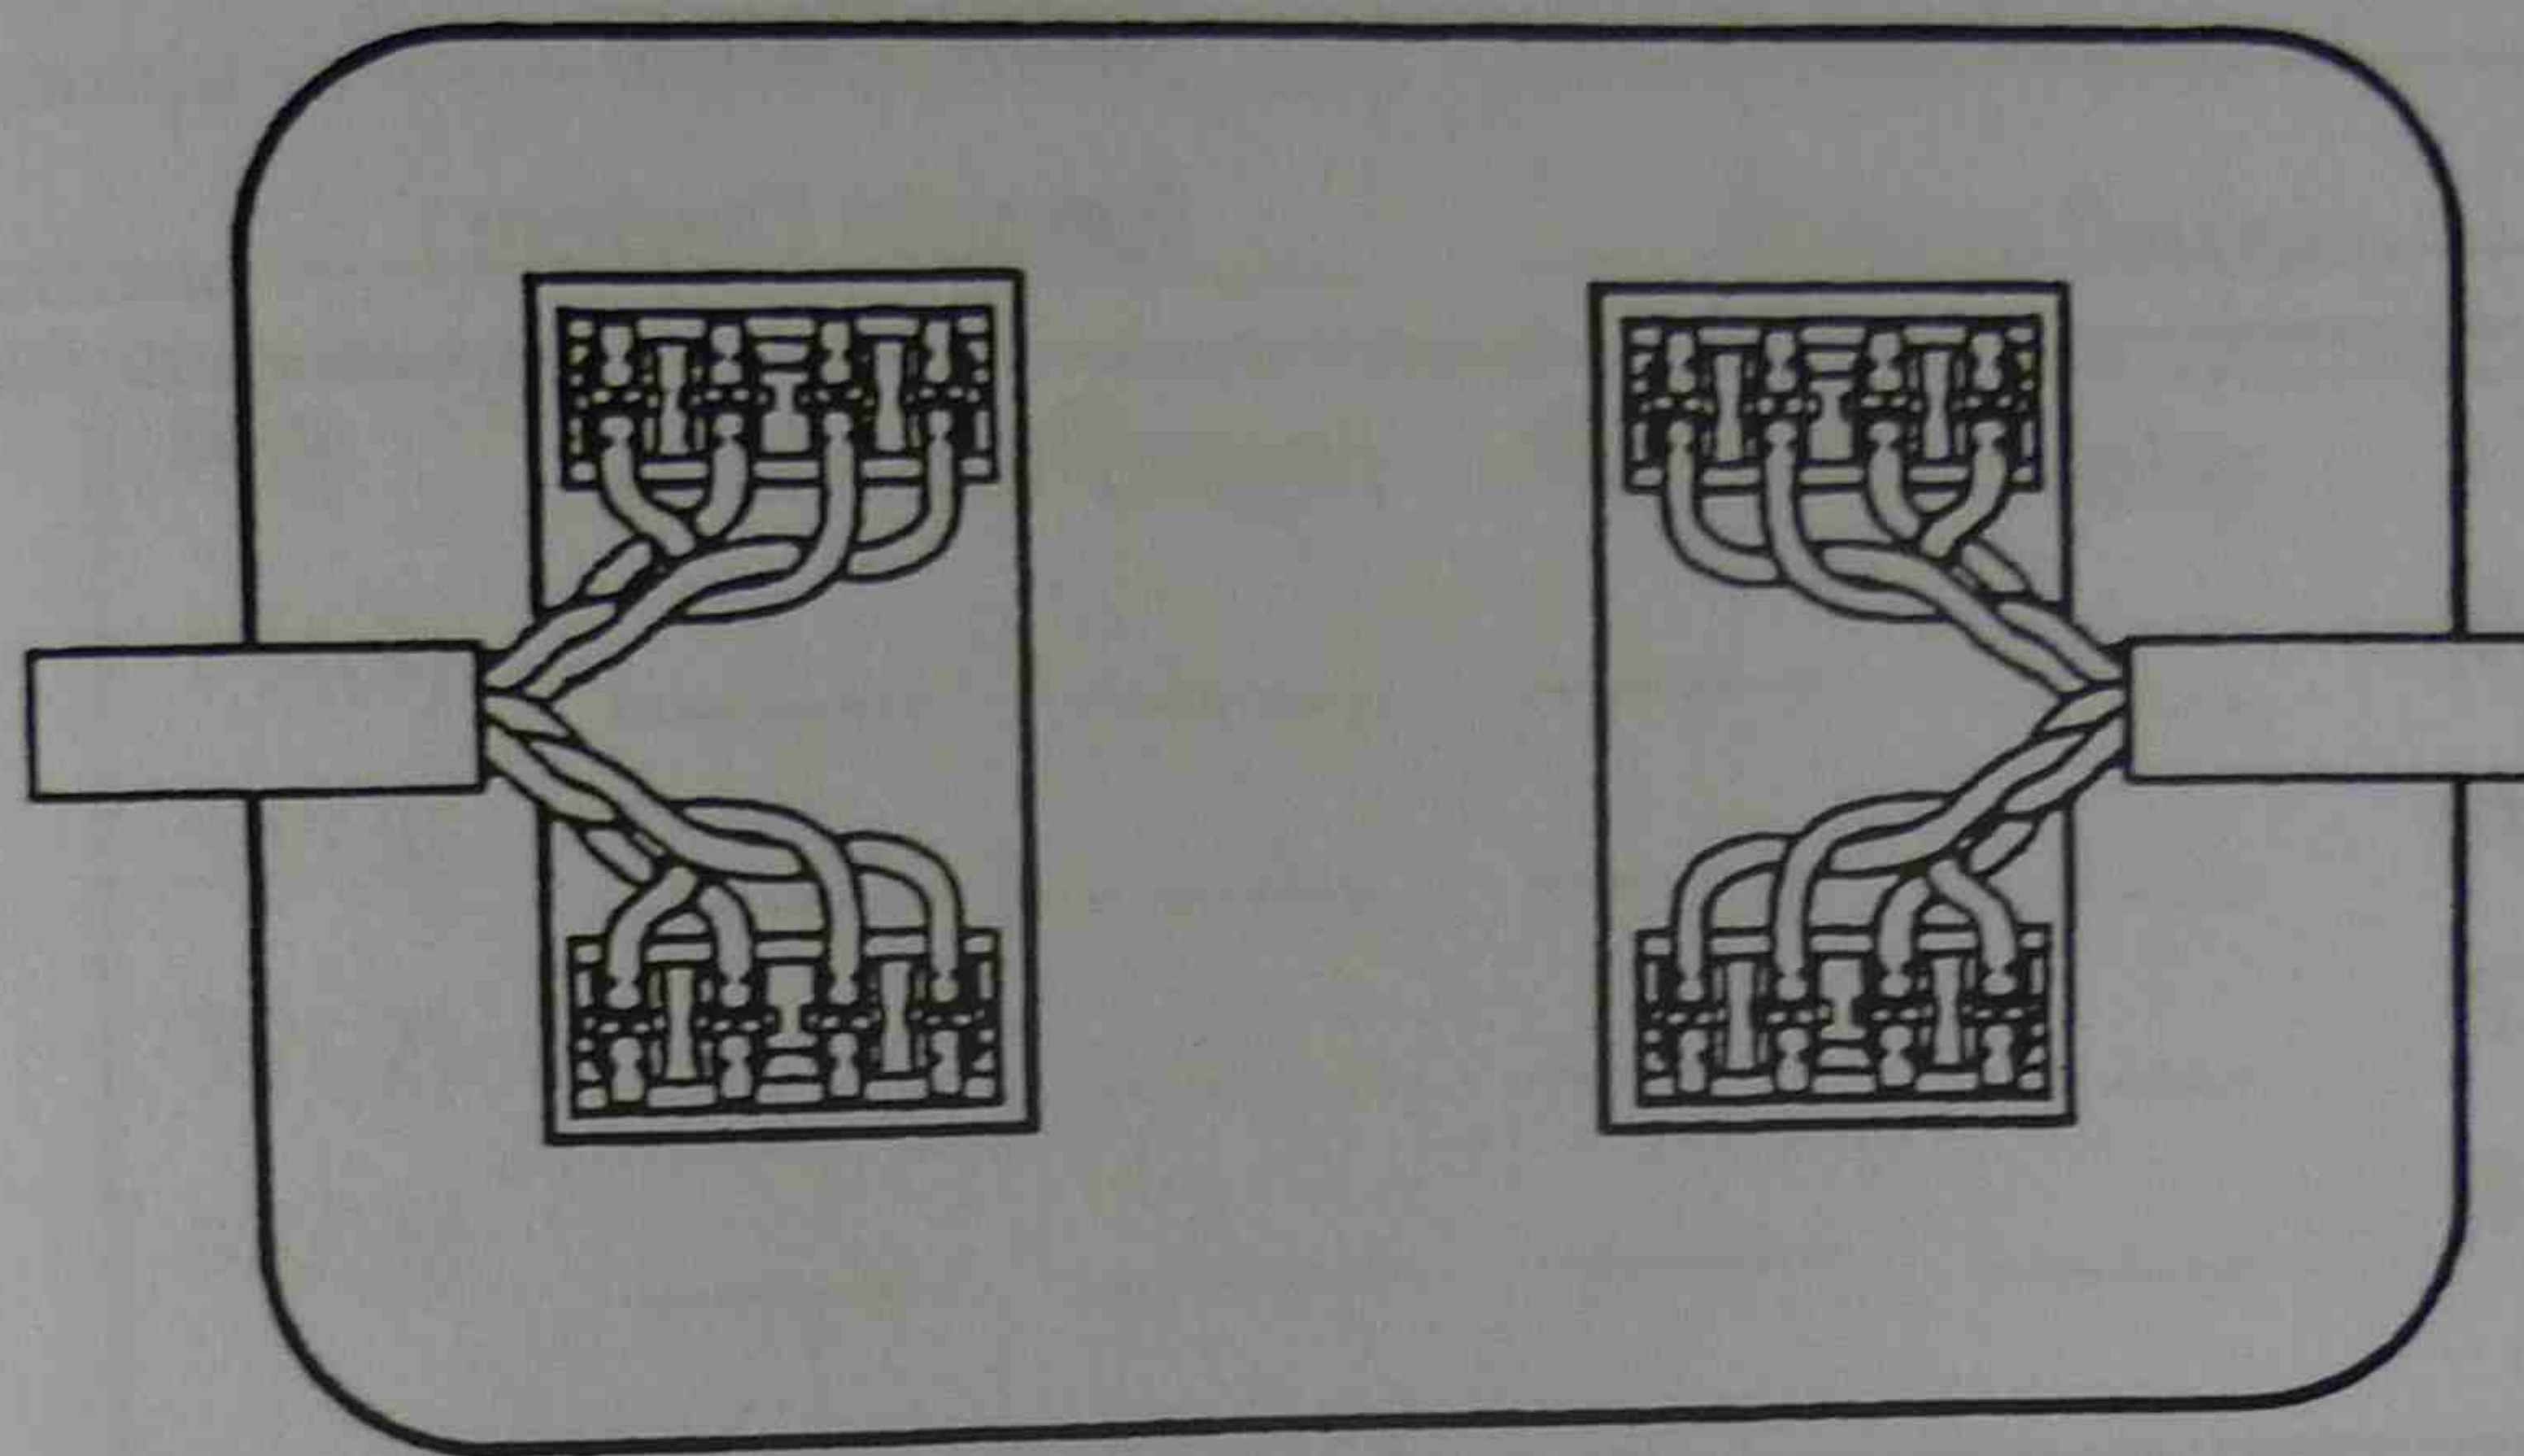

Figure 36 Termination at modular 8 x 8 faceplate
10. Terminate the other end of the 4 pair cables to the faceplates in a similar way. Use Figure 36 as a guide.